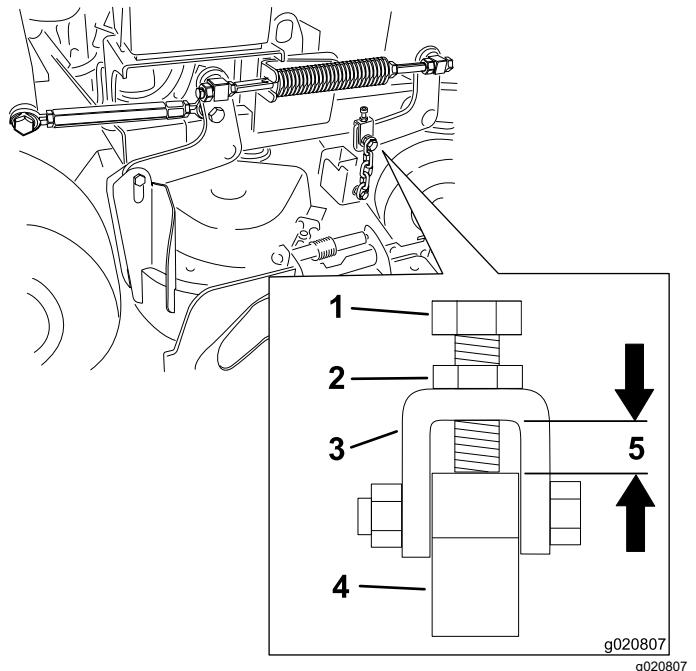

Figure 79
- Note:** This distance needs to be 11 mm (7/16 inch) as shown in Figure 79.
7. Loosen the jam nut and adjust the adjustment bolt to achieve the correct distance as shown in Figure 79.